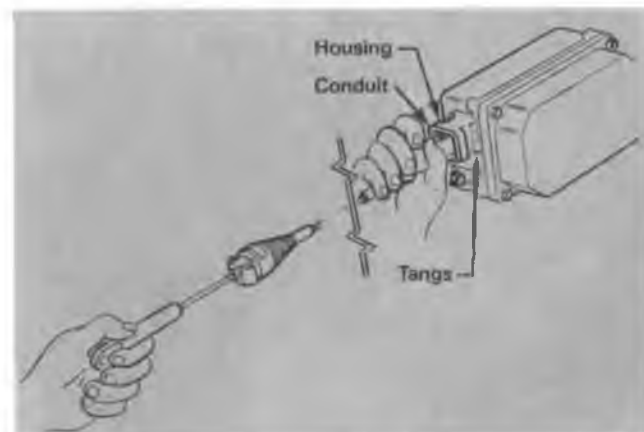

Figure 7-3 Cable Installation
- Step 3 Slide cable conduit over strap and install tangs in cruise motor housing (Figure 7-3).